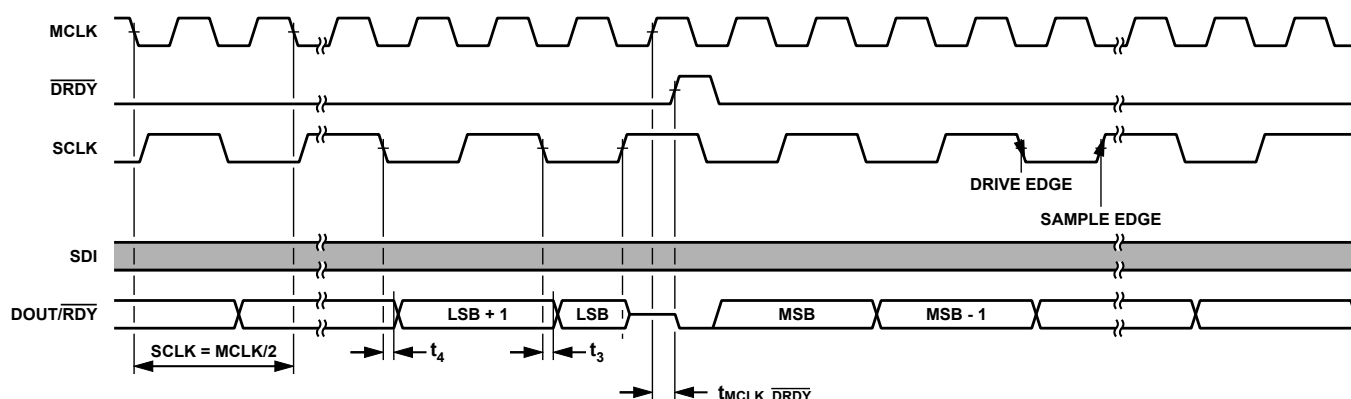

Figure 120. Recommended Interface for Reading Conversions, SPI Control, Continuous Readback Mode
The ADAQ7767-1 interface is flexible to allow the many modes of operation and for data output formats to work across different DSPs and microcontroller units (MCUs). To achieve maximum performance, the recommended interface configuration for reading conversion results is shown in Figure 120. This recommended implementation uses a synchronous SCLK to MCLK relationship.
Figure 120 shows how the recommended interface operates. The data read back spans the entire length of the $\overline{DRDY}$ period and the LSB remains until $\overline{DRDY}$ goes high for the next conversion.
2. Generate SCLK based on the $\overline{DRDY}$ or $\overline{RDY}$ timing. SCLK is high when the $\overline{DRDY}$ signal goes high and transitions on the MCLK falling edges (see Figure 120) to ensure that the LSB can be read correctly as the DOUT/ $\overline{RDY}$ output is reset on the $\overline{DRDY}$ rising edge. However, SCLK rising occurs before this transition.
Because the full ODR period is for clocking data, the $\overline{RDY}$ signal no longer flags after each LSB outputs. This signal only flags if the ADAQ7767-1 is in continuous readback mode, or if the ADAQ7767-1 does not count 32 SCLKs within $1 \times t_{MCLK}$ before $\overline{DRDY}$, as is shown in Figure 120.